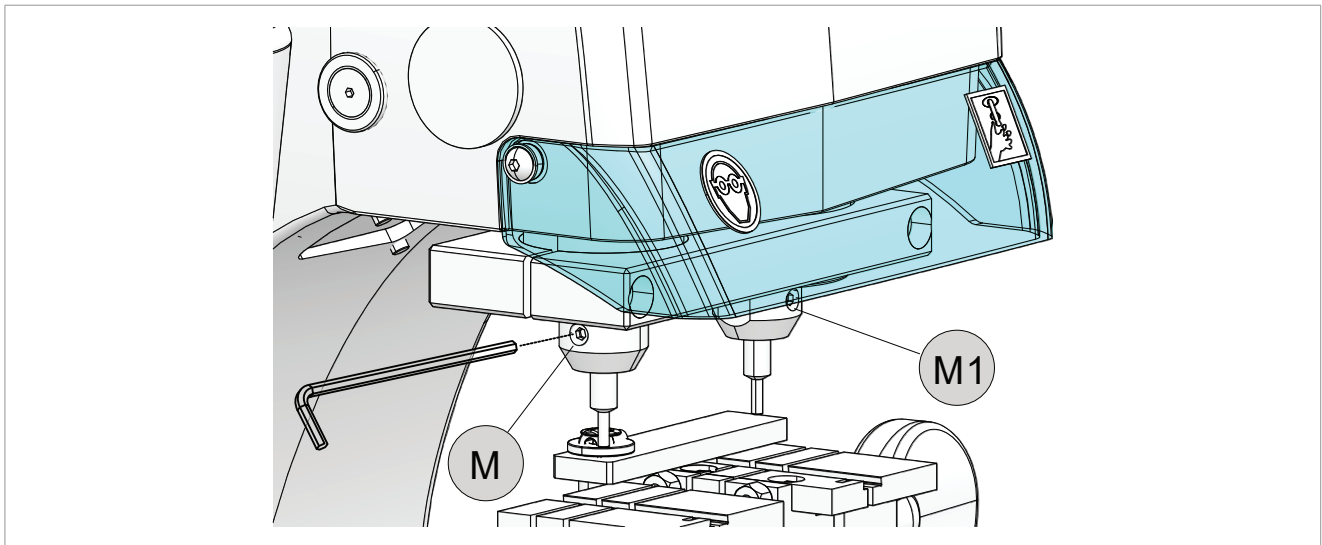

Fig. 14
- 1) Place the tracer point all the way into the left-hand sleeve and secure by tightening the grub screw (M) (Fig. 14).